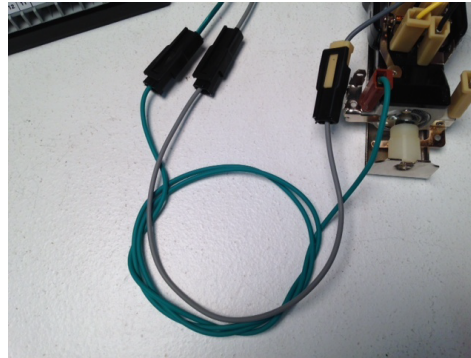
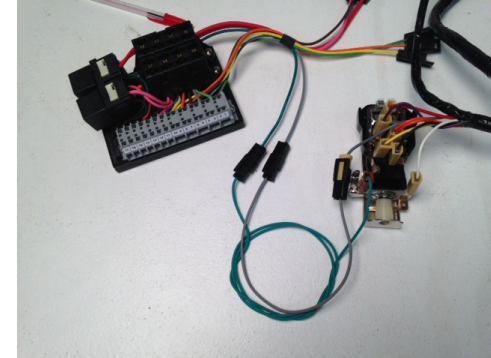

FIGURE 4
FIGURE 5
3. Below left you will see the original wiring orientation of the stock lighting switch. Unplug the original gray wire from the dash lamps output on the lighting switch, and replace it with the brown connector end of the dark green jumper wire as shown in figures 4 and 5 below. Route the other end of the dark green extension wire to the new fuse panel, and connect it to the dark green wire that is coming out of that new fuse panel as shown in figures 4 and 5 below. Connect the gray extension wire from the kit to the gray wire that you previously removed from the lighting switch. Route the other end of the gray extension wire to the new fuse panel, and connect it to the gray wire that is coming out of that new fuse panel as shown in figures 3 and 4 below. Additional dash lamp wiring connections can be made by adding wires (not included with this kit) to the slots numbered 3 & 4 on the new ATO fuse panel. The completed operation should look like figure 5 below.